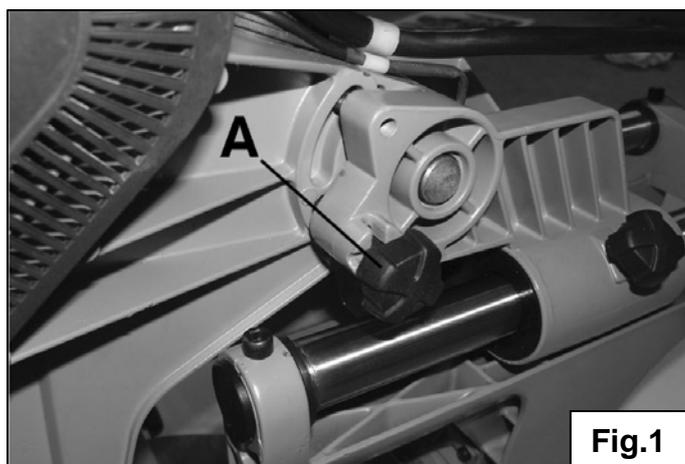

Fig.1
To release the arm, push it down, pull and turn the unlocking button **(A) Fig.1.**
1. Block the mitre saw's head in the low position, close the lock-knob in the transport position (see Fig.1).